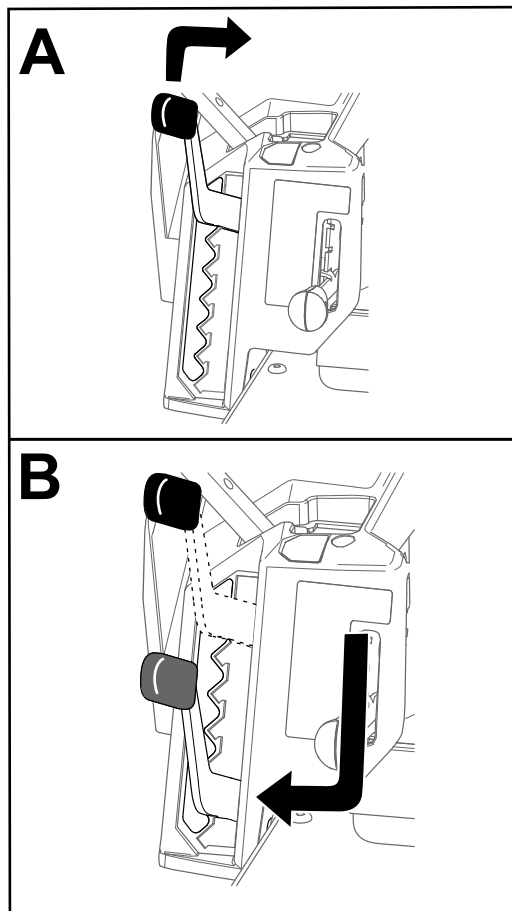

Figure 22
**Note:** The transport position is the highest height-of-cut position or cutting height at 114 mm (4-1/2 inches) as shown in Figure 22.
You can adjust the height of cut from 38 to 114 mm (1-1/2 to 4-1/2 inches) in 13 mm (1/2 inch) increments. The height of cut is controlled by the lever located to the right of the operating position (Figure 22).